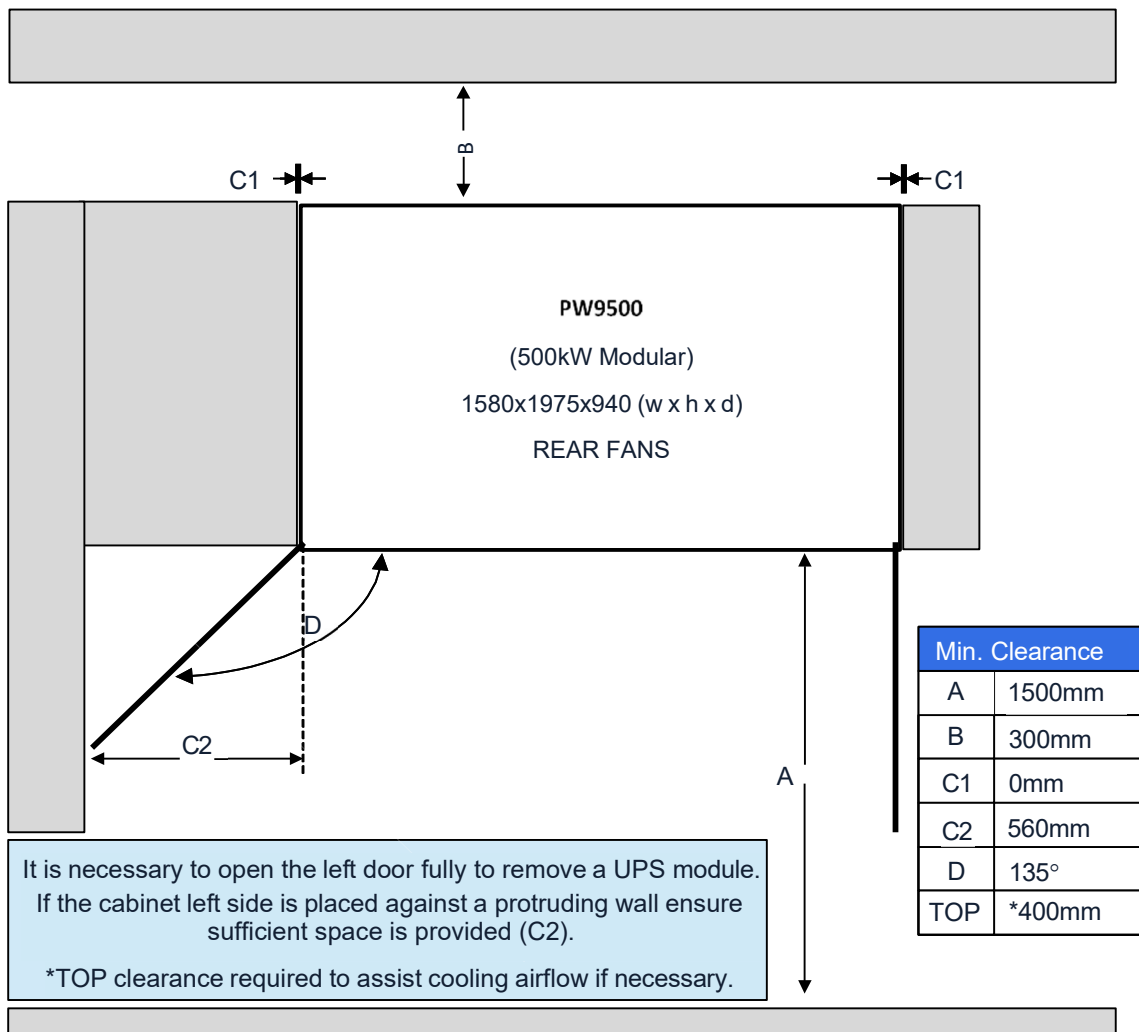

Figure 4.2 Clearances
*Note: The cabinet left door must be opened by 135° in order to remove/fit the UPS modules, so the left side of the cabinet cannot be positioned directly against a projecting wall (see Figure 4.2).*